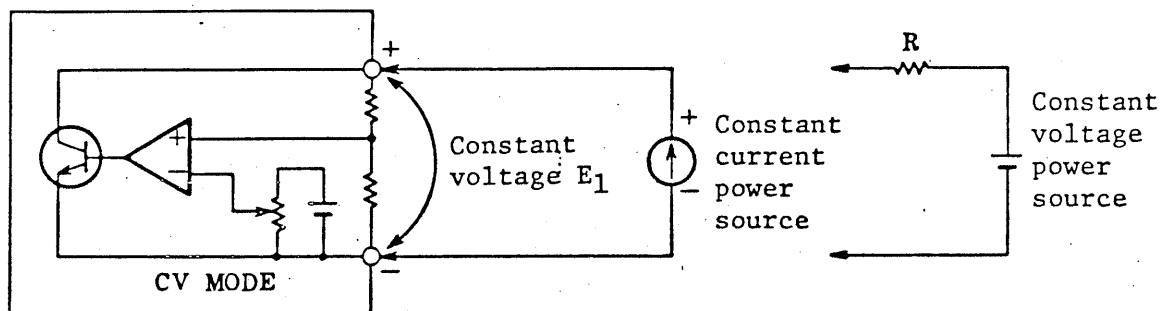

Figure 2-8-1
1. This mode is available by applying a constant current power source to the DC INPUT terminals with the shunt regulator method. This mode is used mainly for tests and adjustments of the current limit characteristics of a DC constant voltage stabilizing power source having power capacity of 700 W or less. Fig. 2-8-1 shows the basic circuit diagram.
As shown by the Fig. 2-8-1, connecting a constant voltage power source, to which a constant current power source or an impedance is connected in series, a shunt regulator is constituted. The value of the constant voltage  $E_1$  may be varied within the range of 5 V - 60 V DC with use of the CV dial. A yellow LED will be lit during the CV mode. The operating method for the constant voltage mode is explained below: